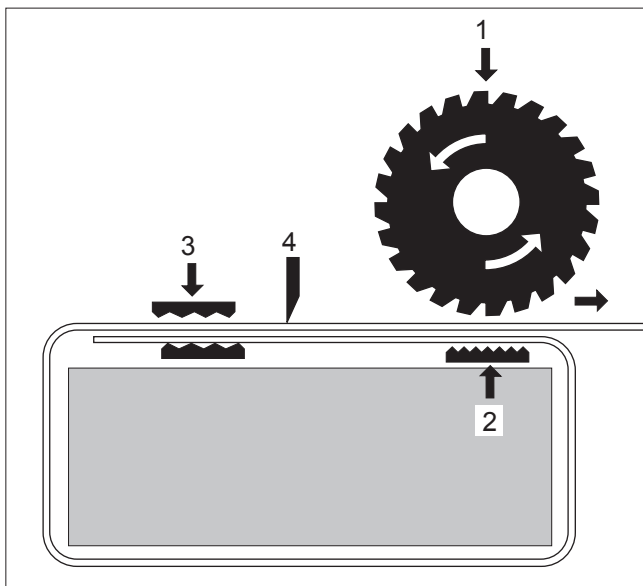

Fig. 2
- Strap clamped by pressure on toothed plate ( Fig. 2/2).